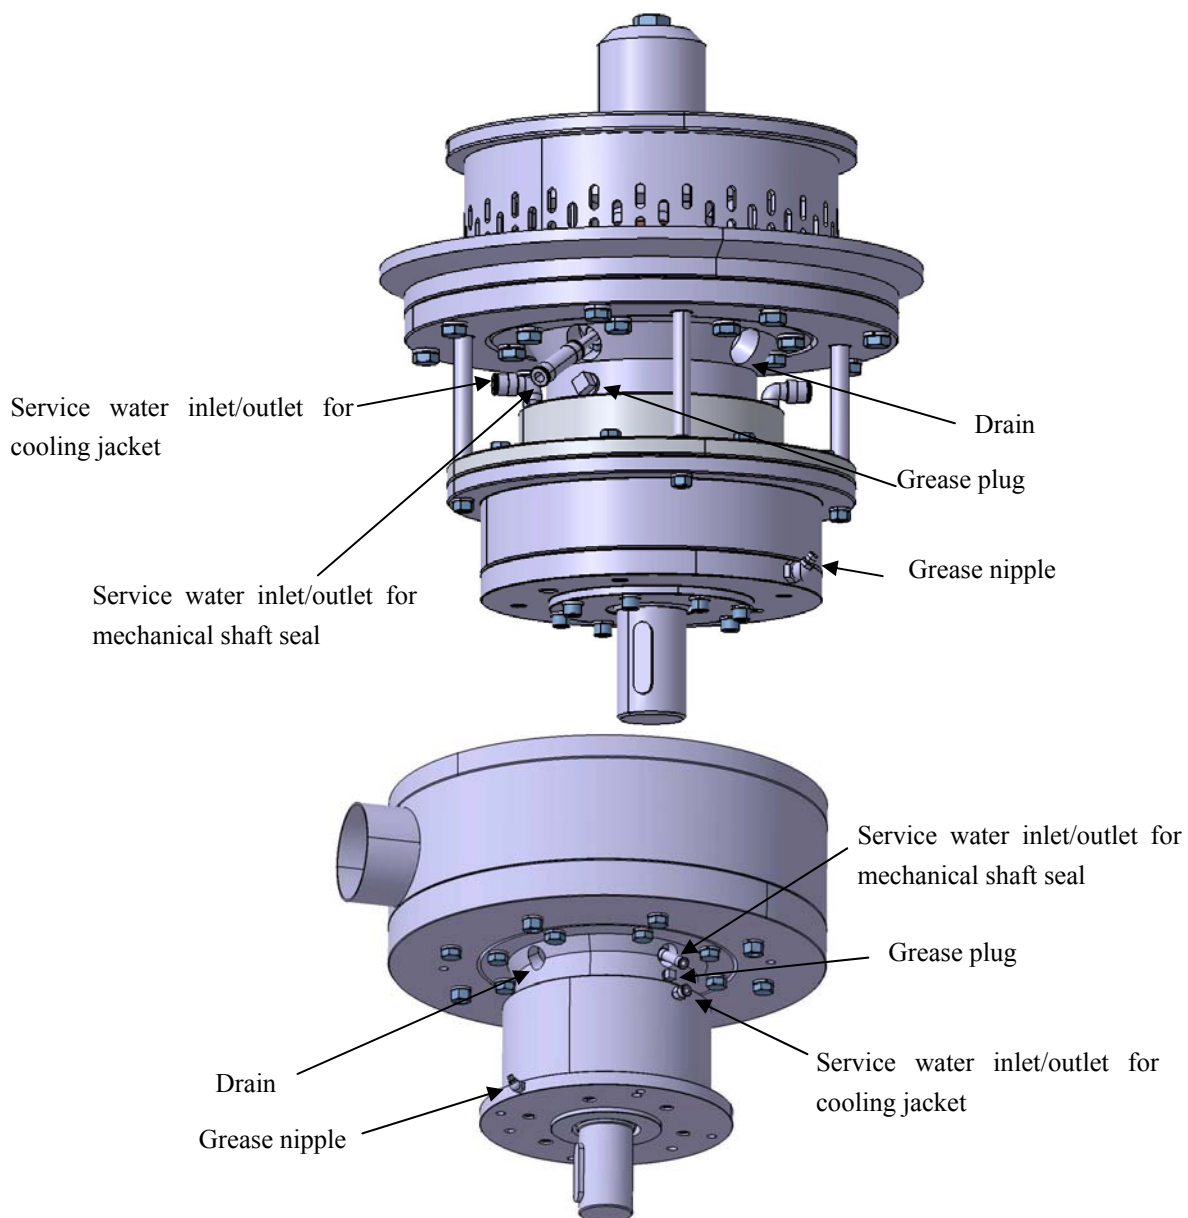

Figure 8-1 Maintenance checkpoints on the mixer unit. Upper image: Batch mixer unit. Lower image: Inline mixer unit
- Check that service water is running through the mechanical shaft seal. See Figure 8-1
- Check that service water is running through the cooling jacket on the bearing house. See Figure 8-1
- Check the mixing unit that no water is coming out of upper drain on the bearing house of the mixing unit. See Figure 8-1
- Check that there are no traces of products in the water from the water inlet/outlet on the turbo unit. See Figure 8-1
- Check bearings on the mixing unit for grease. Press grease into the bearing house by using the grease nipple at the side of the Turbo bearing house until grease comes out of the drain hole (grease plug on bearing house). See Figure 8-1